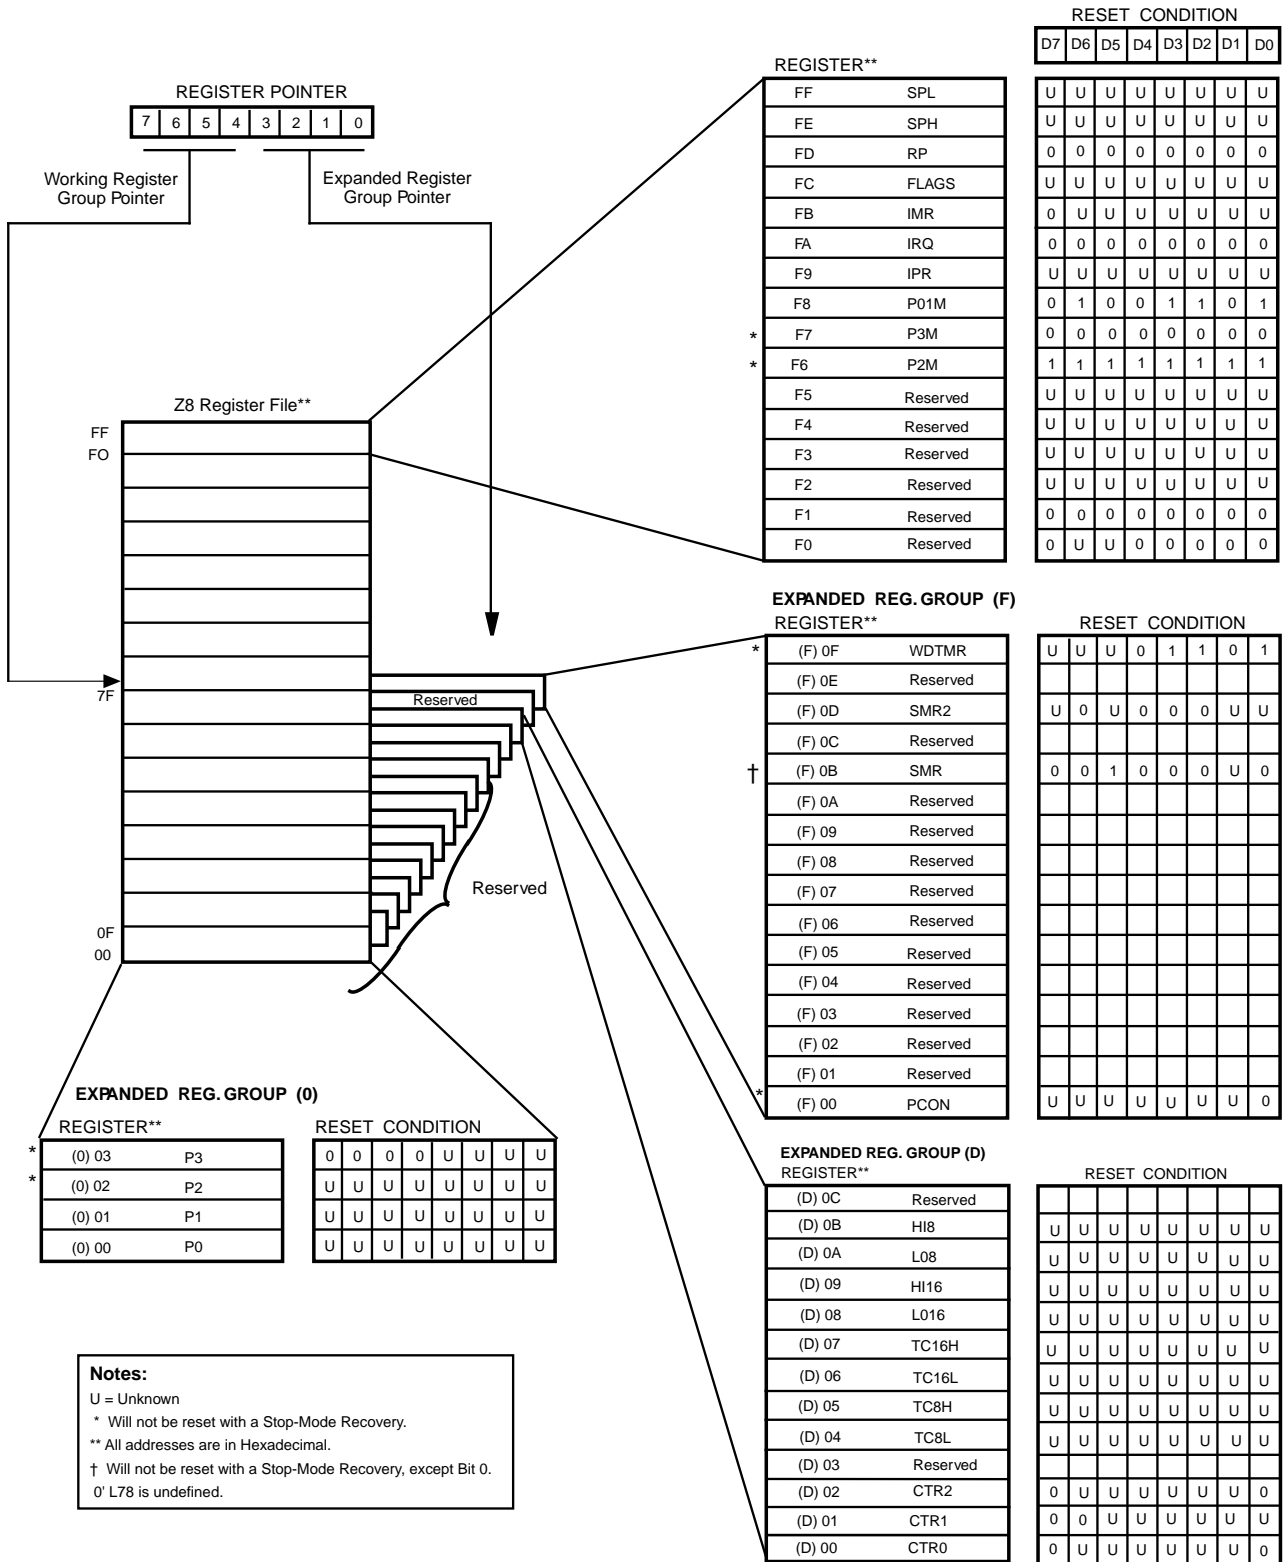

Figure 16. Expanded Register File Architecture
**Expanded Register File (ERF).** The standard Z8 register file has been expanded to allow for additional system control registers, and for mapping of additional peripheral devices along with I/O ports into the register address area. The Z8 register address space R0 through R15 has been implemented as 16 groups of 16 registers per group. These register groups are known as the Expanded Register File (ERF). Bits 7-4 of register RP select the working register group. Bits 3-0 of register RP select the expanded register group (Figure 16).